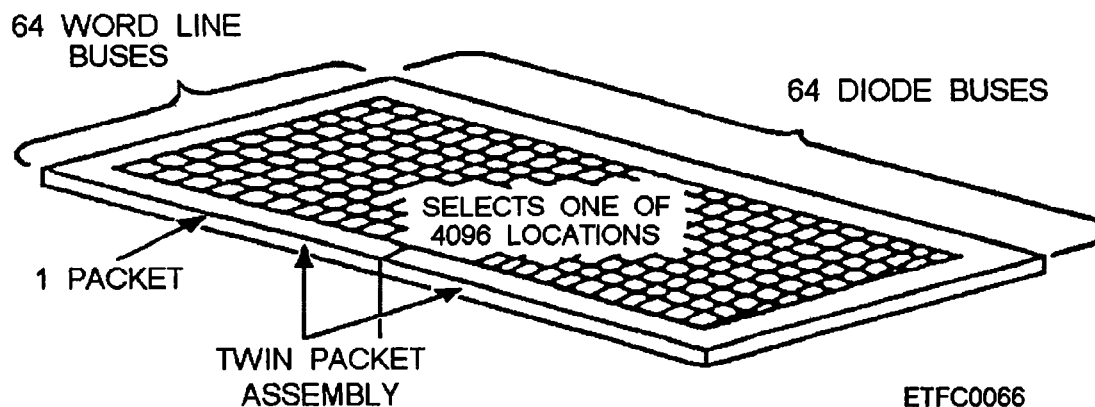

Figure 6-18.—Example portion of a film array.
**Matrices.**— The mated film spots are organized into matrices called film arrays to simplify addressing, reading, and writing operations. Figure 6-18 is an